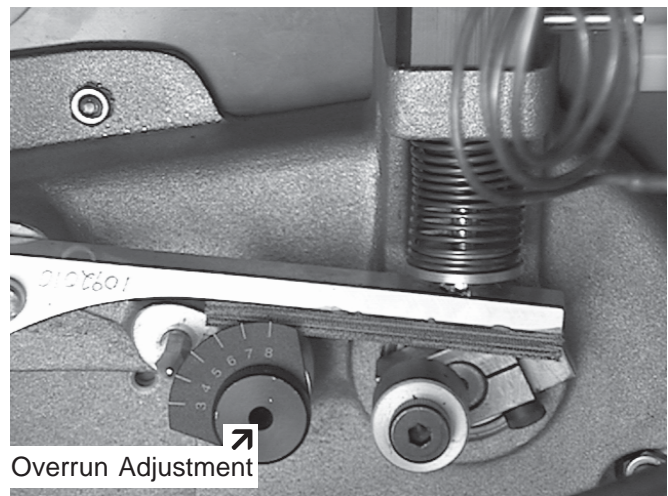

Figure 29. Overrun Adjustment
- C. On air compressor side of pump, locate the long/slender piston rocking arm. The rocking arm downward travel is limited by a stationary cam. On the face of the cam there is an overrun setting indicator plate numbered 3 thru 8 and an adjustment knob. Figure 29.
To check belt tension, refer to Figure 29 and follow the steps below: